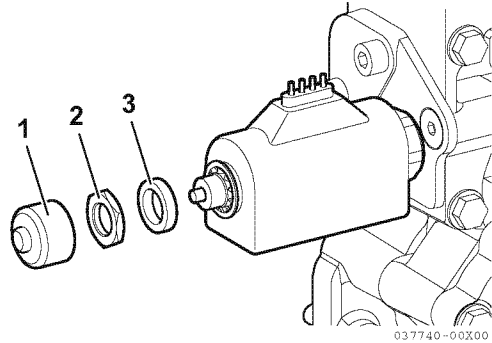

Figure 9
- With the engine(s) off, remove cap (1, Figure 9), nut (2, Figure 9) and collar (3, Figure 9).